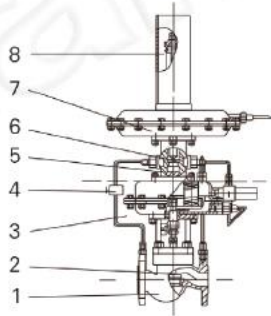

图1：30W02-01供氮装置
供氮装置(见图1), 将设在罐顶的取压点的介质经导压管引入检测机构(7), 介质在检测元件上产生一个作用力与预设弹簧(8)预紧力相平衡。当罐内压力降低至低于供氮装置压力设定点时, 平衡破坏, 使指挥器阀芯(6)打开, 使阀前气体经减压阀(4)、节流阀(5)、进入主阀执行机构(3)上、下膜室, 打开主阀阀芯(2), 向罐内充注氮气; 当罐内压力升至供氮装置压力设定点, 由于预设弹簧力, 关闭指挥器阀芯(6)、由于主阀执行机构中的弹簧作用, 关闭主阀, 停止供氮。
In the nitrogen supply device (see figure 1), the medium at the pressure point at the top of the tank is introduced to the detection mechanism (7) through the pressure pipe. The medium produces an acting force on the detection element, which balances the pre-tightening force of the preset spring (8). When the pressure in the tank drops to be lower than the pressure set point of the nitrogen supply device, the balance is destroyed, so that the pilot plug (6) is opened, and the before-valve gas enters the upper and lower diaphragm chambers of the main valve actuator (3) after passing through the pressure reducing valve (4) and throttle valve (5). The main valve plug (2) is opened and nitrogen is filled into the tank. When the pressure in the tank rises to the pressure set point of the nitrogen supply device, the pilot plug (6) is closed by the preset spring force. Due to the spring action in the main valve actuator, the main valve is closed and nitrogen supply is stopped.